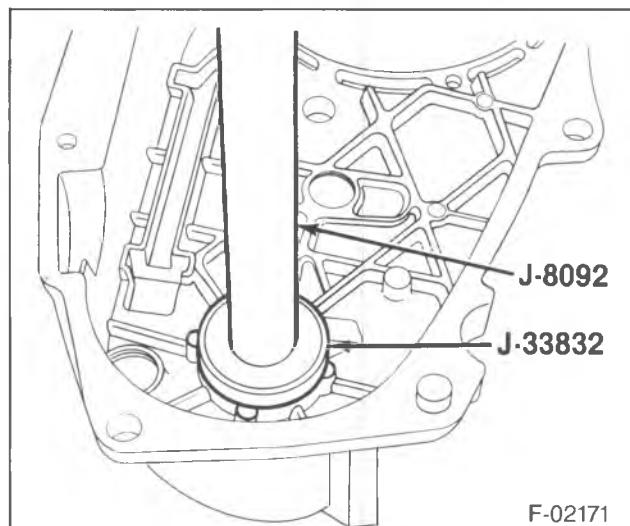

Figure 23—Front Output Shaft Rear Bearing Installation
- Front output shaft rear bearing (20) using J 33832 and J 8092. Press the bearing until the tool bottoms in the case (figure 23).